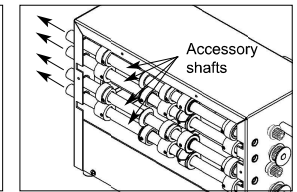

Figure 12
7. The accessory shafts may now be pushed into the machine and the accessories may be moved around, removed or replaced easily. Fig. 12